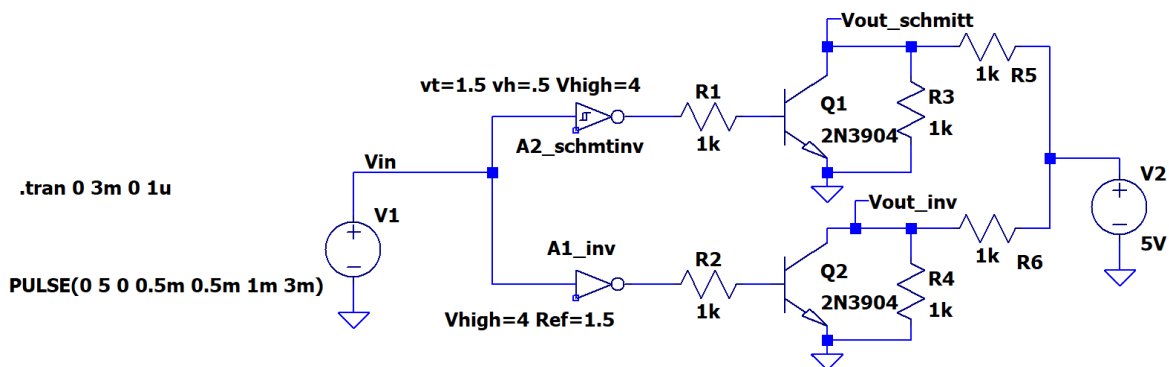

Figure C-5
- Wire the circuit in Figure C-5 in LTspice. Note that there are two nearly identical circuits in this diagram: one containing an inverter and the other a Schmitt trigger inverter.